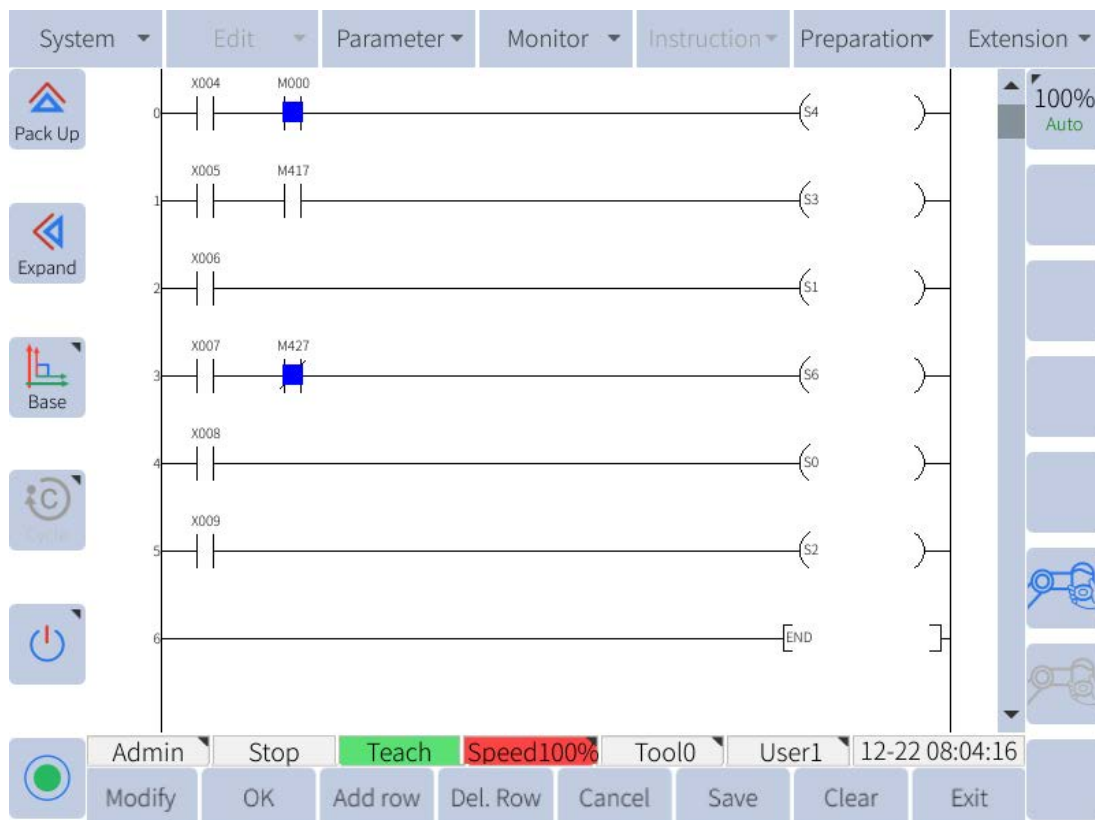

Figure 10-3 : Example of how to set the PLC to make the robot jump to the main program
Figure 10-3 shows an example of a PLC program, the user can create this program to run the main program.
4. Select **“Extension -> User PLC”**, edit the following PLC sample program, as shown in **Figure 10-3** :